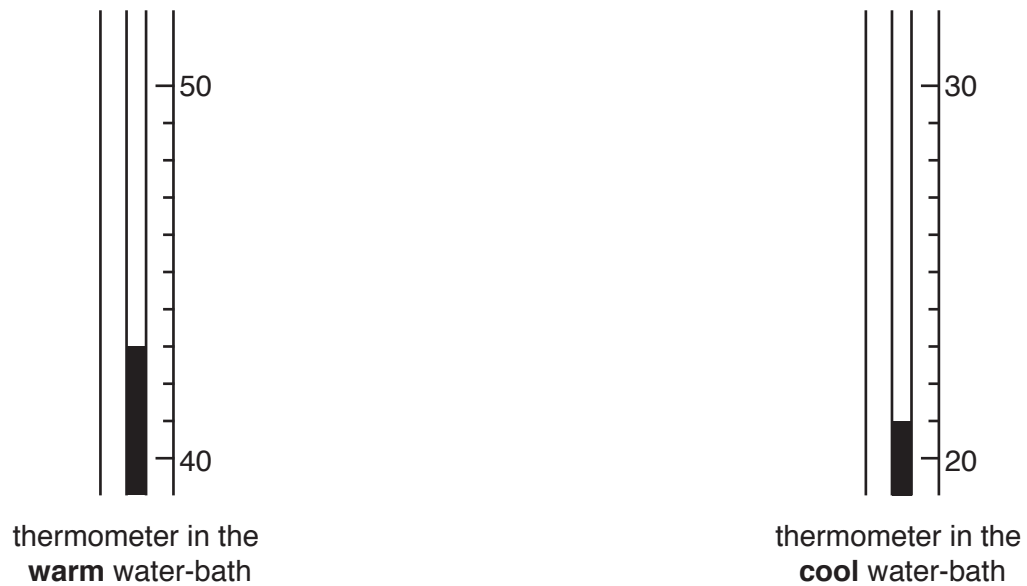

Fig. 1.3
Step 4 At the end of the investigation the final temperature of the water in both water-baths was measured. The results are shown in Fig. 1.3.
- (ii) Use the information in step 2 and Fig. 1.3 to complete Table 1.1.